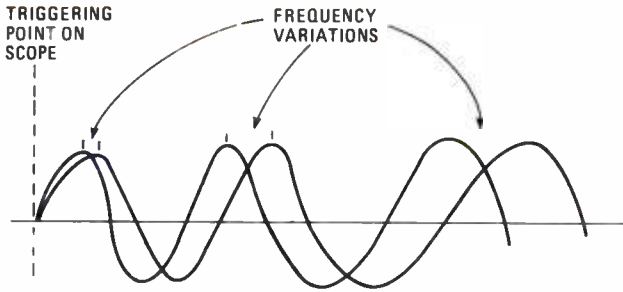

Fig. 21—Frequency variations look terrible on the scope. The only way to be sure that the circuit is working is to look and see the signal blur on the scope.
16. Apply power to the circuit. Connect your scope to view the output of the 2206 carrier at pin 2. Adjust the sweep frequency so that you display several cycles of the output. The output should be a sinewave with an amplitude of about $2 V_{pp}$. The 770 Hz modulating signal will be varying the frequency of the carrier above and below the 35-KHz center frequency. Therefore, the scope display will be fuzzy. Your signal should look like that shown in Fig. 21.
As you probably discovered, observing FM on a scope is frustrating. Because of the continuously varying frequency, the horizontal sweep never really locks in even with good triggering. Mostly all you see is a blur. But you can display the waveform in Fig. 21 that effectively illustrates the frequency deviation. The broader the blurred part of the wave, the greater the frequency deviation. The blurred area increases when you increase the modulating signal amplitude.